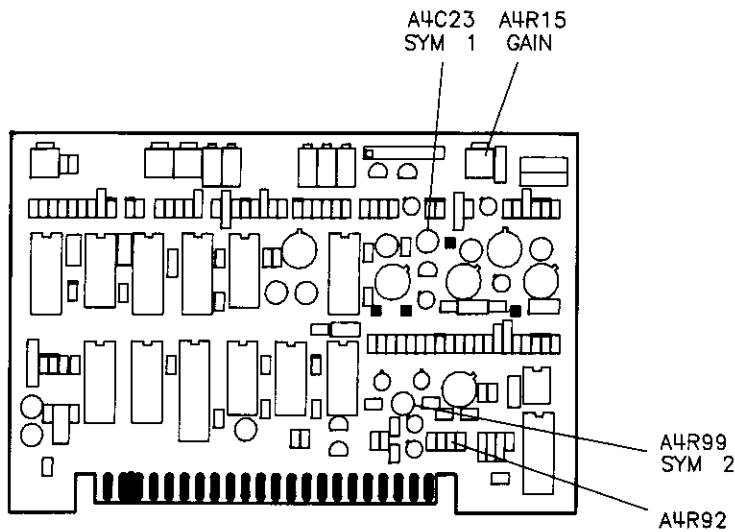

Figure 5-42. Squarewave Symmetry Adjustment Locations
1. Connect the equipment as shown in Figure 5-42, with A4 on an extender board. Allow one hour for warm-up.